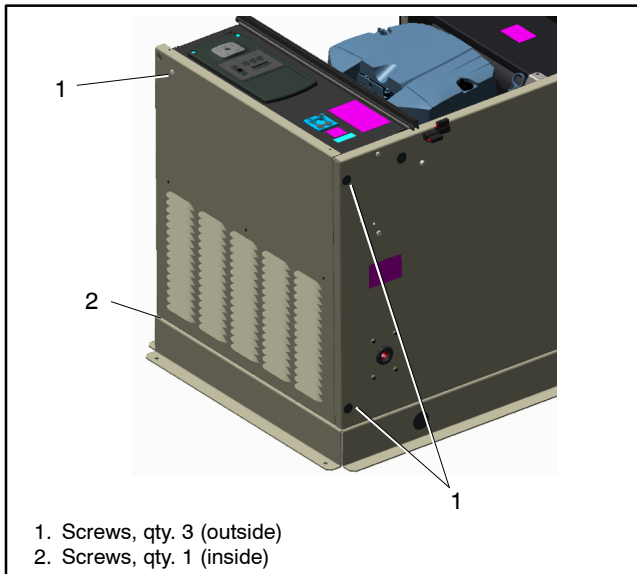

Figure 3 Removing the Front Panel
5. Remove the front panel by removing four screws shown in Figure 3.